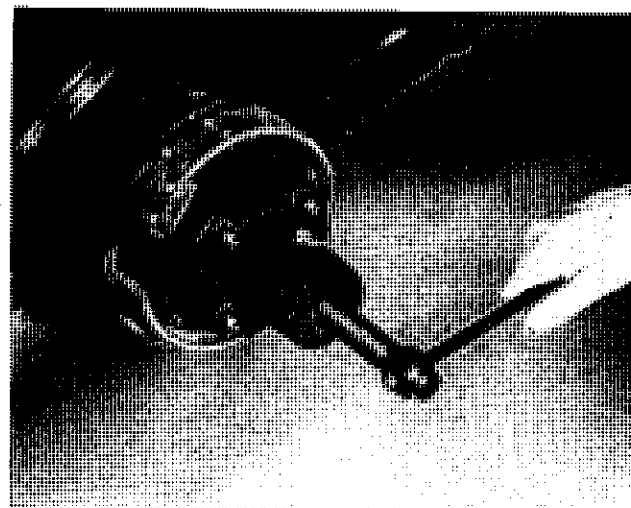

Fig. 3. Extracting Rear Hub with Tool No. M.86.
6. The hub can now be extracted from each axle shaft after removal of the castellated nut, washer and taper collar. Alternatively the hub can be extracted with the puller shown in Fig. 3, before removing the axle shaft.
3. Remove four $\frac{9}{16}$ " A/F headed bolts which secure the bearing housings and brake backing plate assemblies to the axle casing. (If preferred, rear hubs may be extracted with the puller shown in Fig. 3, before removal of the bearing housings).